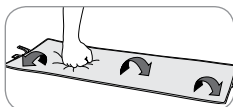
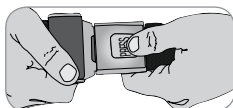

Fig. 23a - Testing over-mattress sensor pad
Fig. 24 - Chair belt sensor
- Test several places along the entire surface of the sensor by applying and removing pressure to make sure the alarm activates when pressure is removed from the sensor/mattress (Figs. 23a, b), when you unfasten the chair belt sensor (Fig. 24).